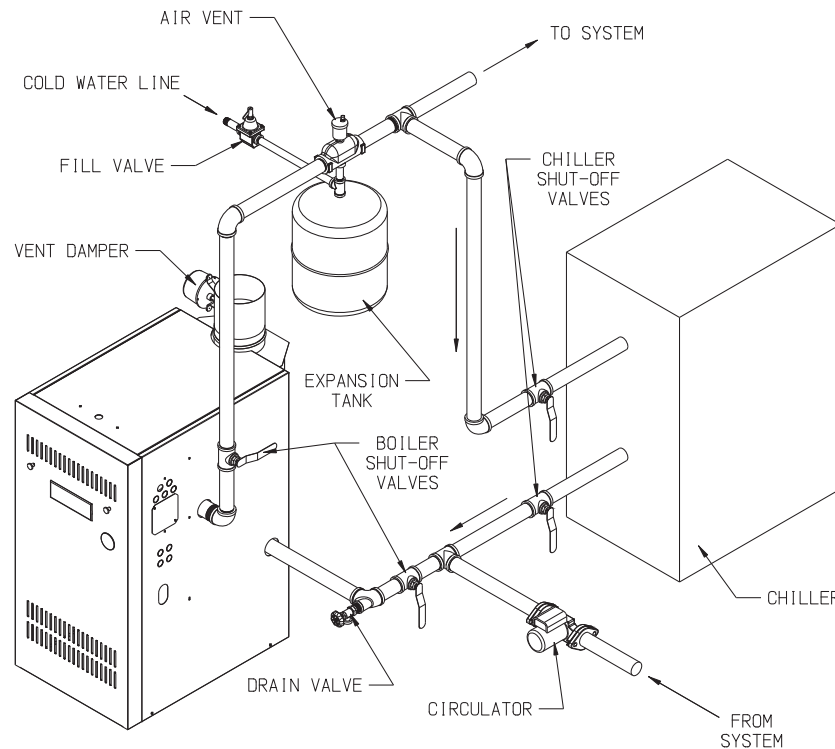

FIGURE 8.7: BOILER PIPING WITH CHILLER
- 6) Piping with a Chiller - If the boiler is used in conjunction with a chiller, pipe the boiler and chiller in parallel as shown in Figure 8.7. Use isolation valves to prevent chilled water from entering the boiler.